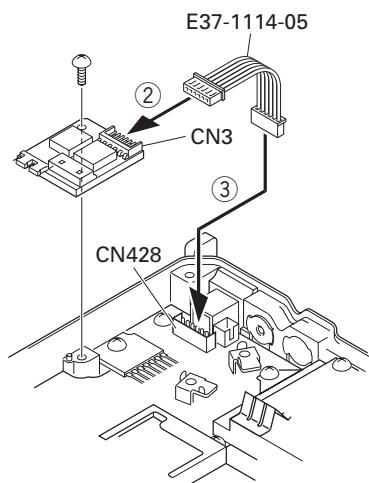

Fig. 3-2
5. Place the relay unit at the position shown in Figure 3-2 and secure it to the chassis with a screw.
6. Remove the cap on the rear of the chassis by pushing it from the inside with your finger. (④)
7. Pass the 6-pin connector of the cable (E37-1113-05) through the chassis hole (⑤) and insert the bush into the chassis hole.
8. Rotate the bush of the cable 90 degrees counter-clockwise as viewed from the rear of the chassis. (⑥)
9. Insert the 6-pin connector of the cable into the connector (CN2) of the KAP-2 relay unit. (⑦)